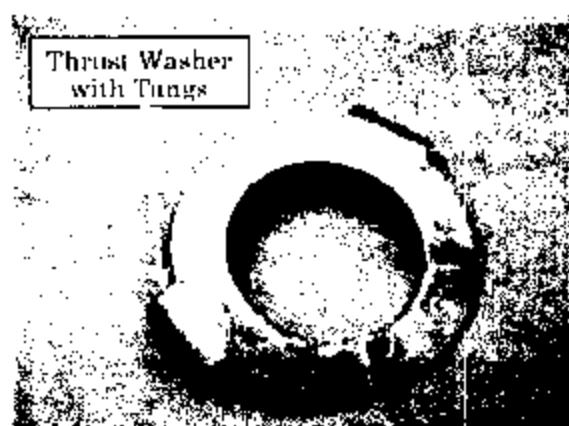

Figure 23
47. Reinstall the thrust washer, tangs toward the adapter case in their slots (see figure 23).